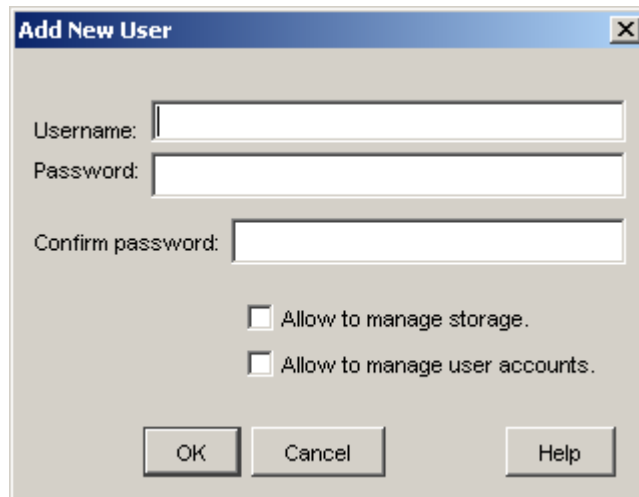

Figure 5-50. Add New User Dialog Box
3. Click the **Add User** button. The Add New User dialog box appears (see Figure 5-50).